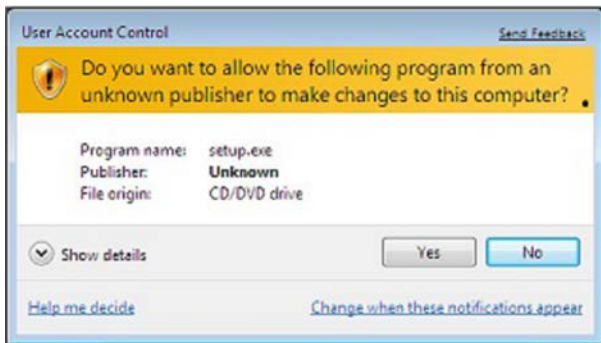

Figure 3. Granting Permission for the Program to Make Changes to PC
3. A dialog box appears asking for permission to allow the program to make changes to the PC. Click **Yes** (see Figure 3).